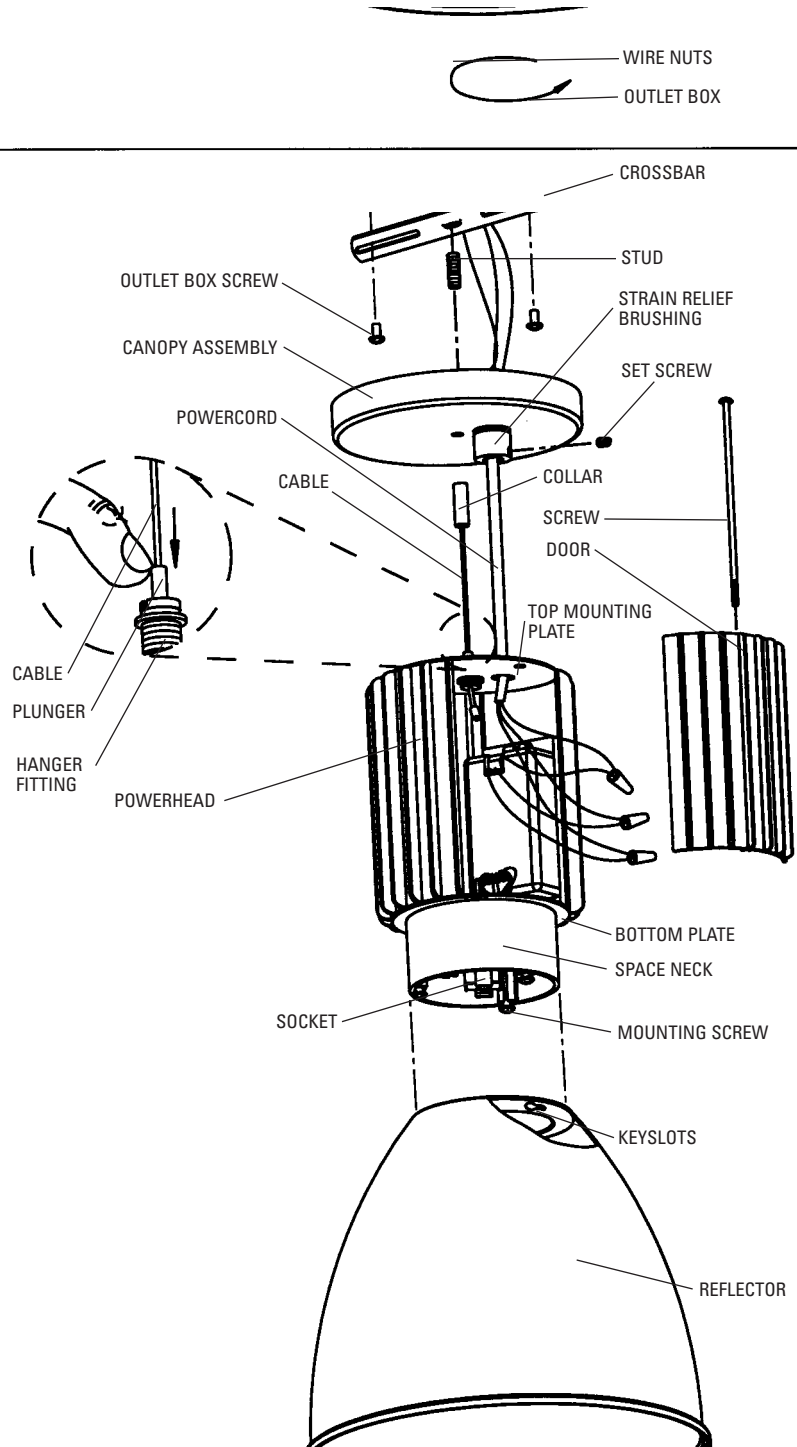

FIG. 1
1. Thread STUD into CROSSBAR as shown (fig.1).